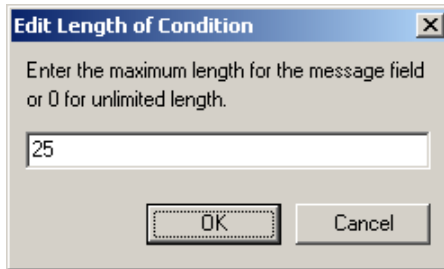

Figure 113. Edit Length Dialog Box
10. To change the maximum field length, select the desired field in the Name column and click **Edit**. The Edit Length dialog box shown in Figure 113 appears.